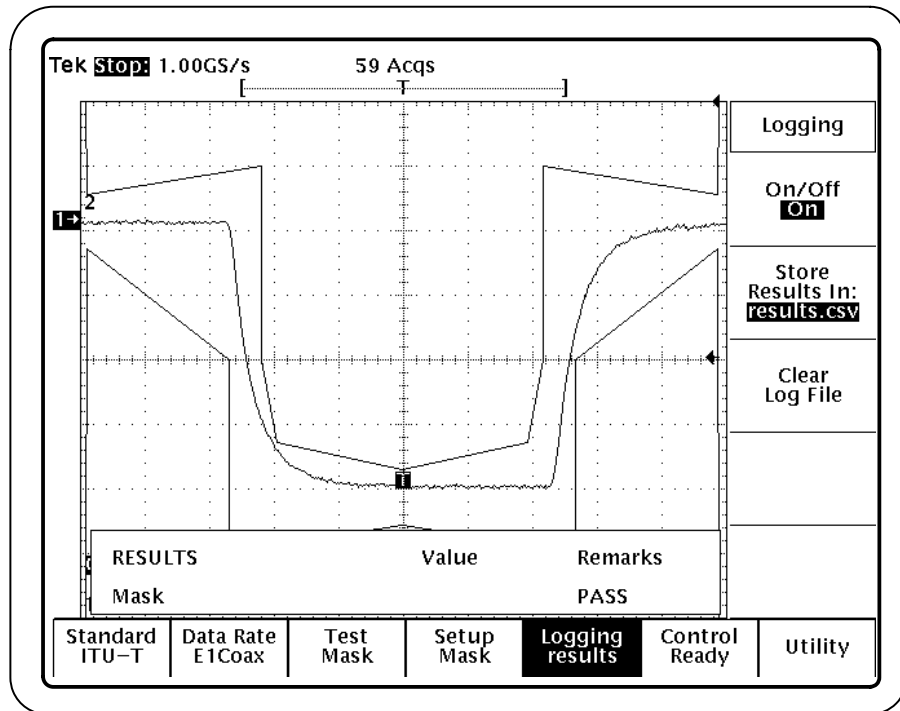

Figure 9: Logging menu
1. Press Logging (main) → On (side). Figure 9 shows the Logging menu.